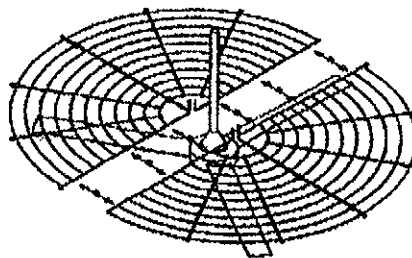

Figure 2
2. Assemble (2) sections of top guard together with (3) wire clips. Assemble other (2) sections together at same points.
3. Assemble the (2) half sections together with (6) wire clips (see Figure 2), and hang sections from chains with S-hooks through eyelets.